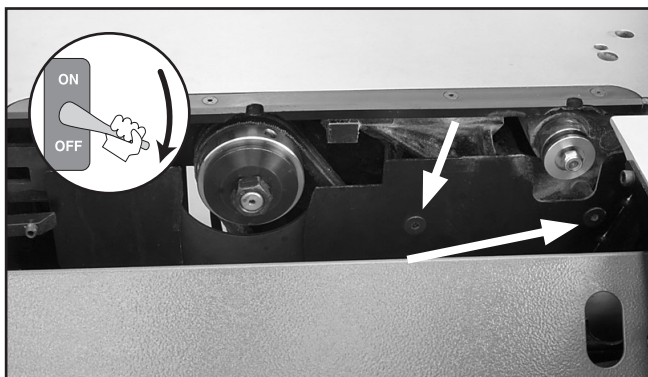

Figure 77. Lower blade guard removal.
4. Remove the screws that secure the lower blade guard (**Figure 77**) and set the guard in the bottom of the cabinet.